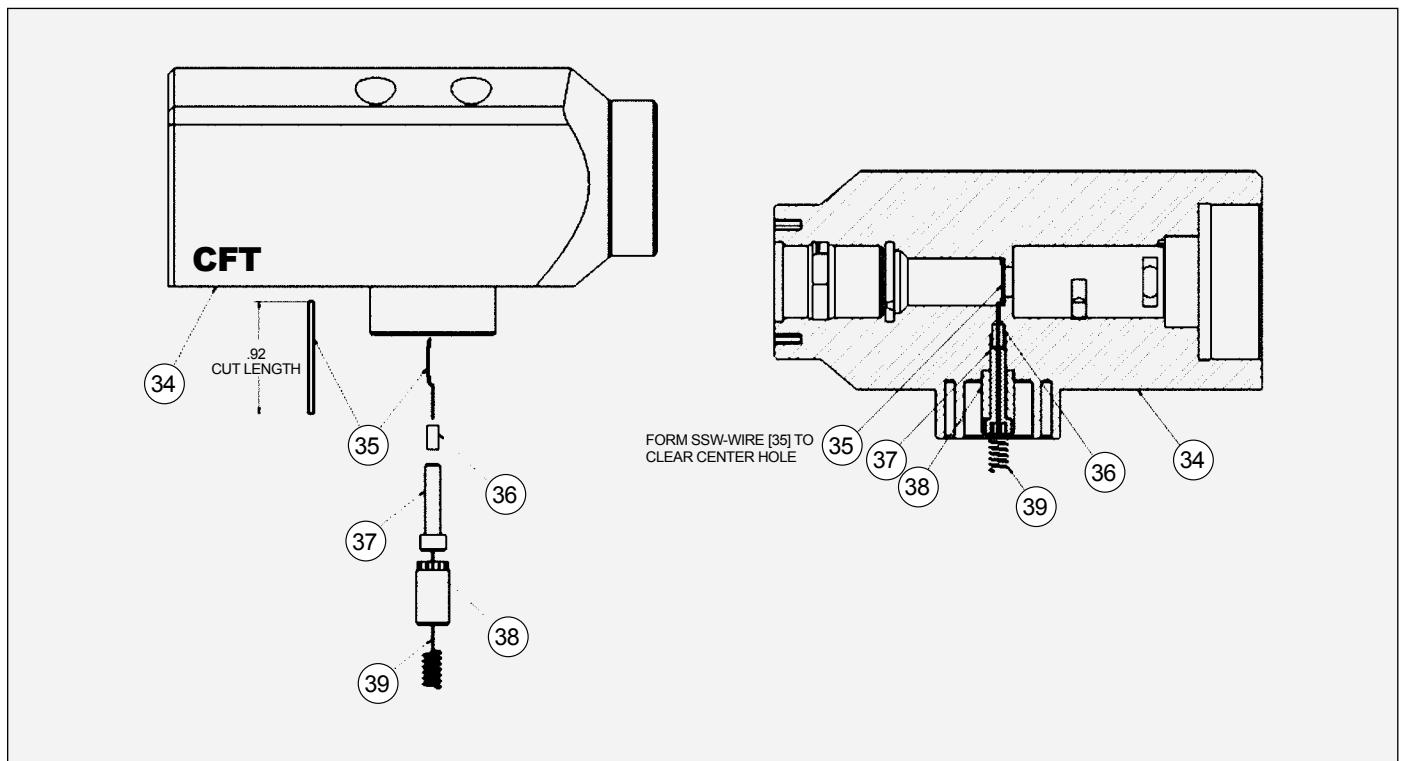

Figure 27: Bare Spray Head Assembly
**80403-01 [3] - PARTS LIST (Figure 27)**